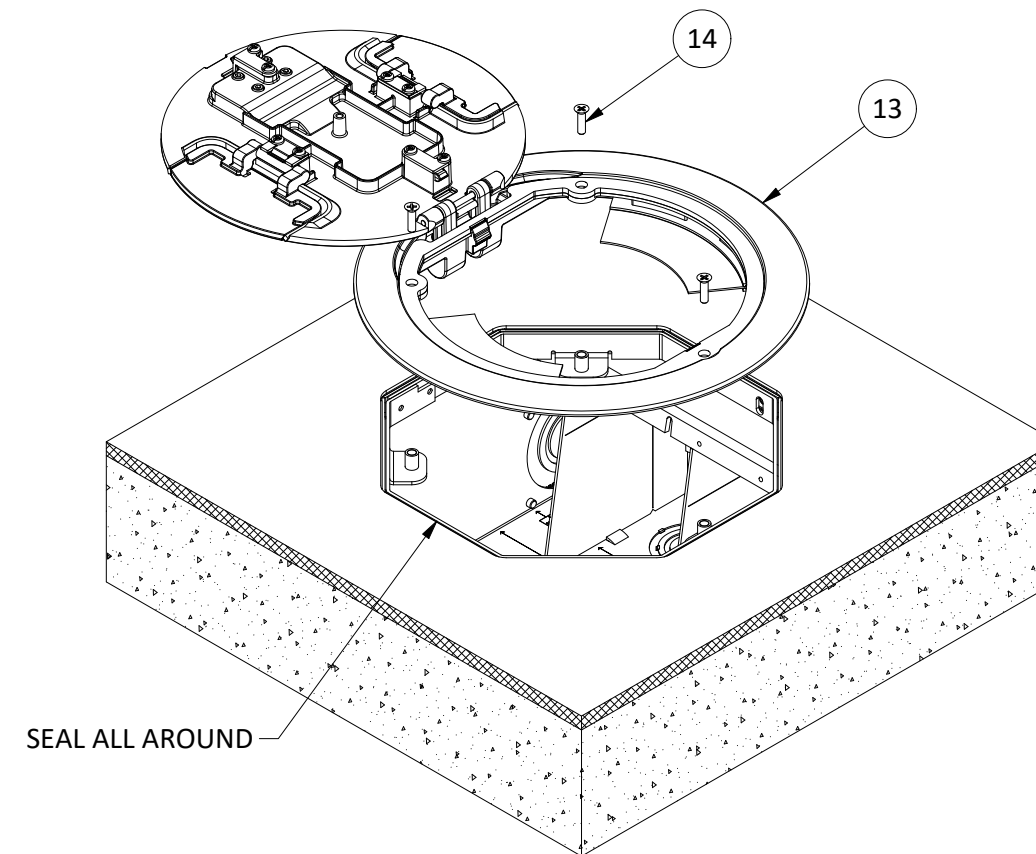

FIGURE 4
17. Seal the gap around the cover support collar [11] with a continuous bead of electrical grade type RTV silicone sealant (SEE FIGURE 4).